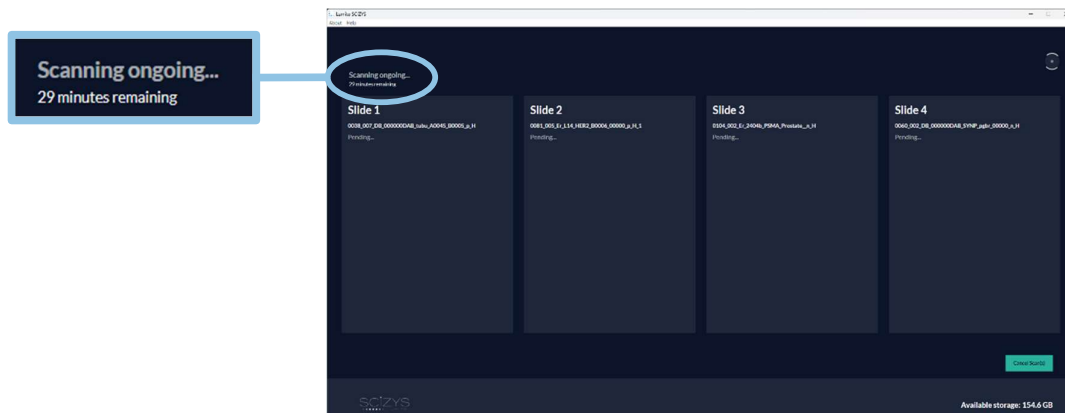

Figure 6-25 Scanning in progress, estimated scanning time shown at the top-left of the screen.
2. Wait for the scan to finish. The progress of each slide will be displayed on the screen along with information about the estimated scan time (Figure 6-25). During scanning a preview of the latest scanned tile is shown.